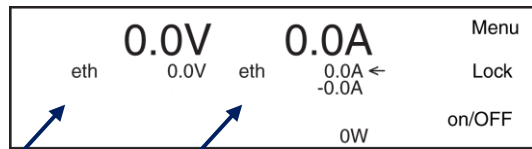

Figure 10.2: For Ethernet programming, the text 'eth' must be seen before the setting(s) that is/are in 'remote mode'.
- For example, when programming via Ethernet, on the second line of the display, before both the set values the text 'eth' must be seen, see Figure 10.2.